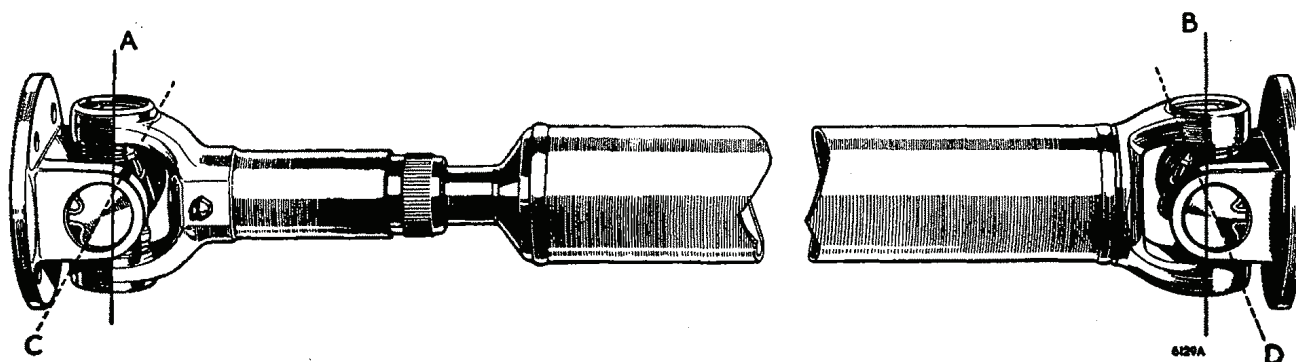

Fig. G.5
- (1) In order to remove the propeller shaft it is necessary to remove the four nuts and bolts securing the front universal joint flange to the gearbox flange, as well as those securing the rear flange to the rear axle flange.
- (2) Check the sliding splines for wear by attempting to turn the splined sleeve yoke in relation to the splined shaft. If excessive circumferential movement is present a reconditioned propeller shaft assembly will be required.
- (3) When fitting new universal joints it will be found helpful to separate the two parts of the propeller shaft at the sliding joint.
- (4) Before refitting the splined sleeve yoke to the shaft push the threaded dust cover, the metal washer, and the felt washer over the splines onto the splined shaft. When assembling the joint ensure that the trunnions of the front and rear universal joints are in line (see Fig. G.5). This can be checked by observing that the arrows marked on the splined sleeve yoke and the splined shaft are in line.
- (5) Fit the propeller shaft to the car with the sliding joint at the gearbox end.